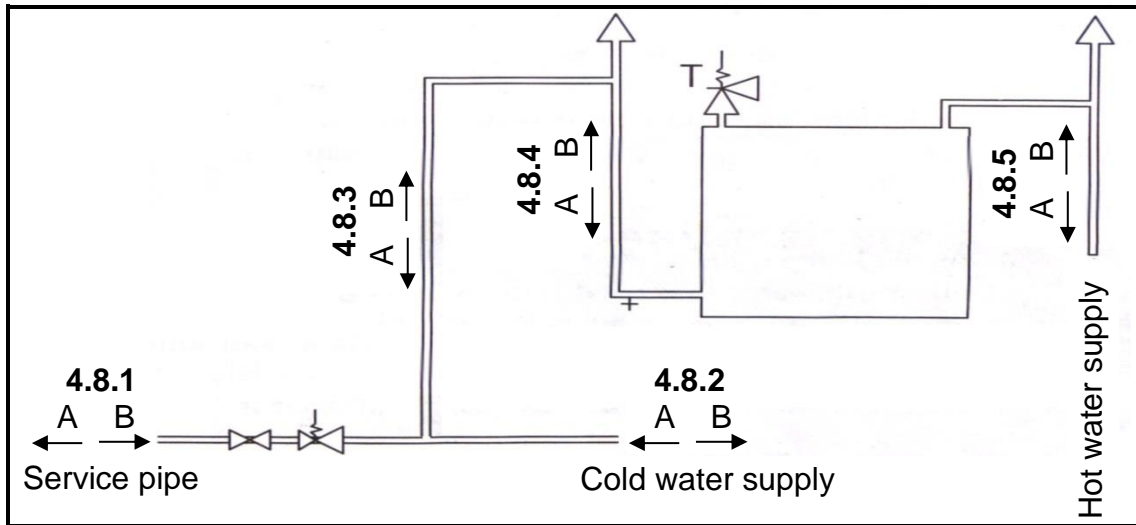

FIGURE 4.8
4.8 Indicate the water flow direction of the water in the pipes 4.8.1 to 4.8.5 of the hot water system in FIGURE 4.8.